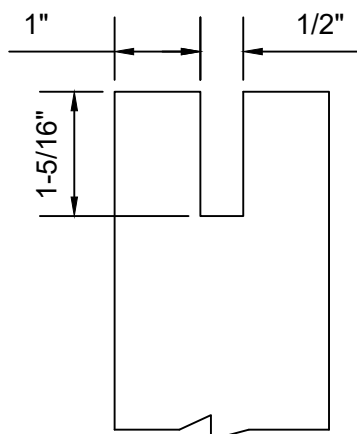

FIGURE 18
- 10) WW-216 face cap will be notched to wrap around anchors. Face cap will be spliced at each anchor. SEE FIGURE 18 for face cap fabrication.